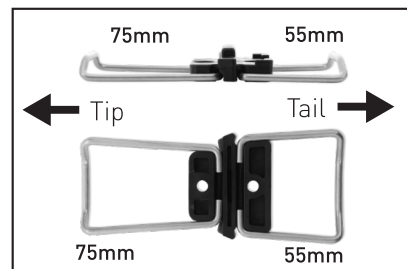
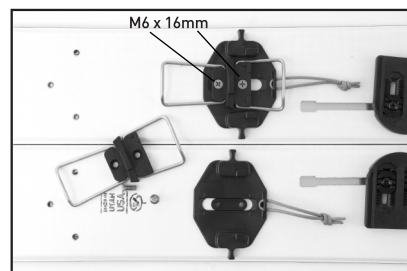

Figure 5
Figure 6
Snap Climbing Wires into the slots on the underside of the Climbing Pads. **(See Figure 5)** Place Climbing Pad/ Wire assemblies over the Heel Lockdown Bases and Locate over the appropriate inserts. Secure each assembly with (2) M6 x 16mm screws. **(See Figure 6)**